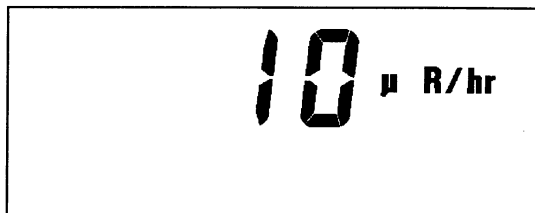

Figure 5. Typical operating screen showing 10 µR/hr.
■ The display will auto-range to the current level (Figure 5). When auto-ranging down, the M2241 uses multiples of 5. This technique keeps the decimal point from jumping between numbers when viewing values around multiples of 10.